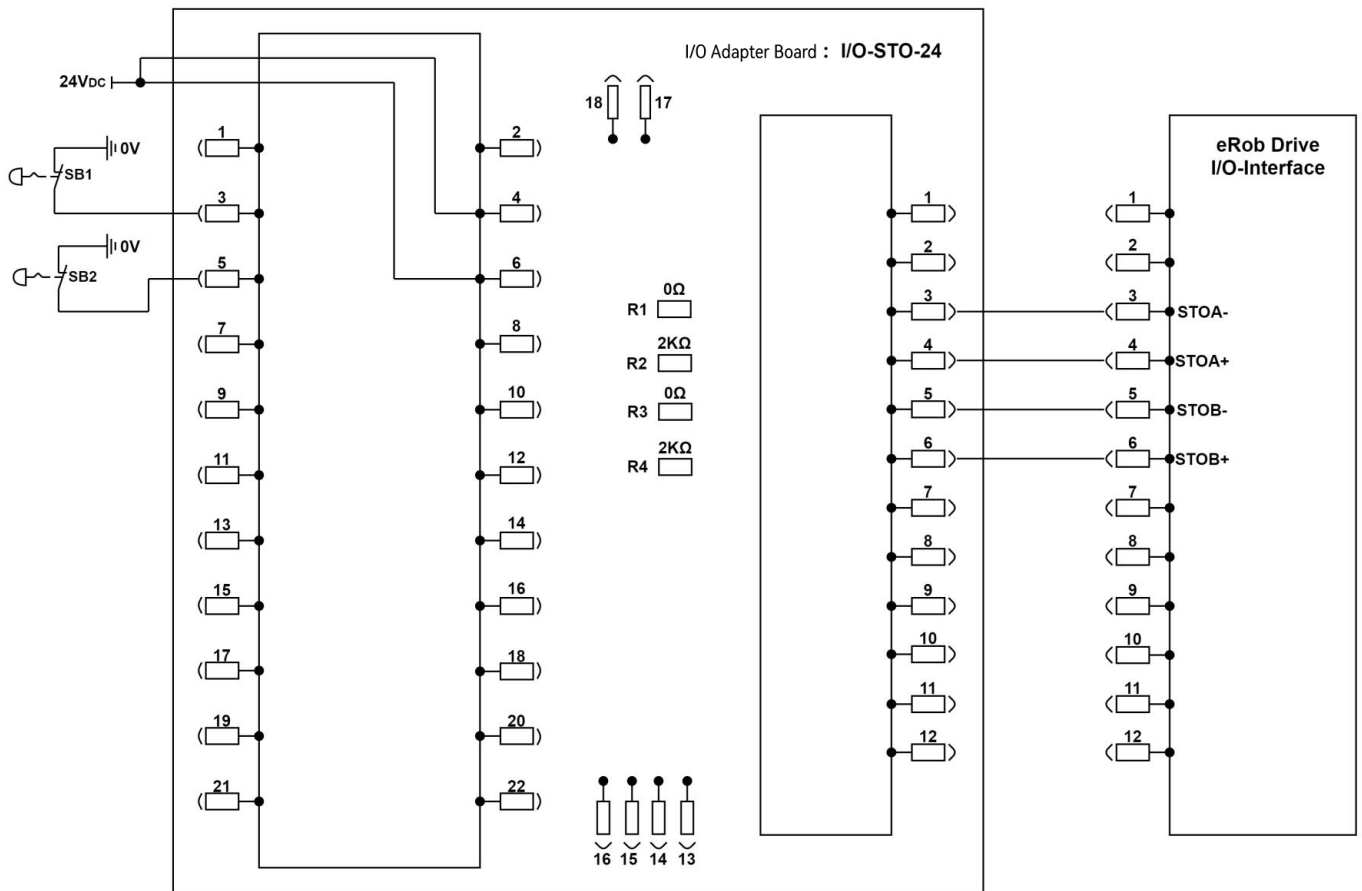
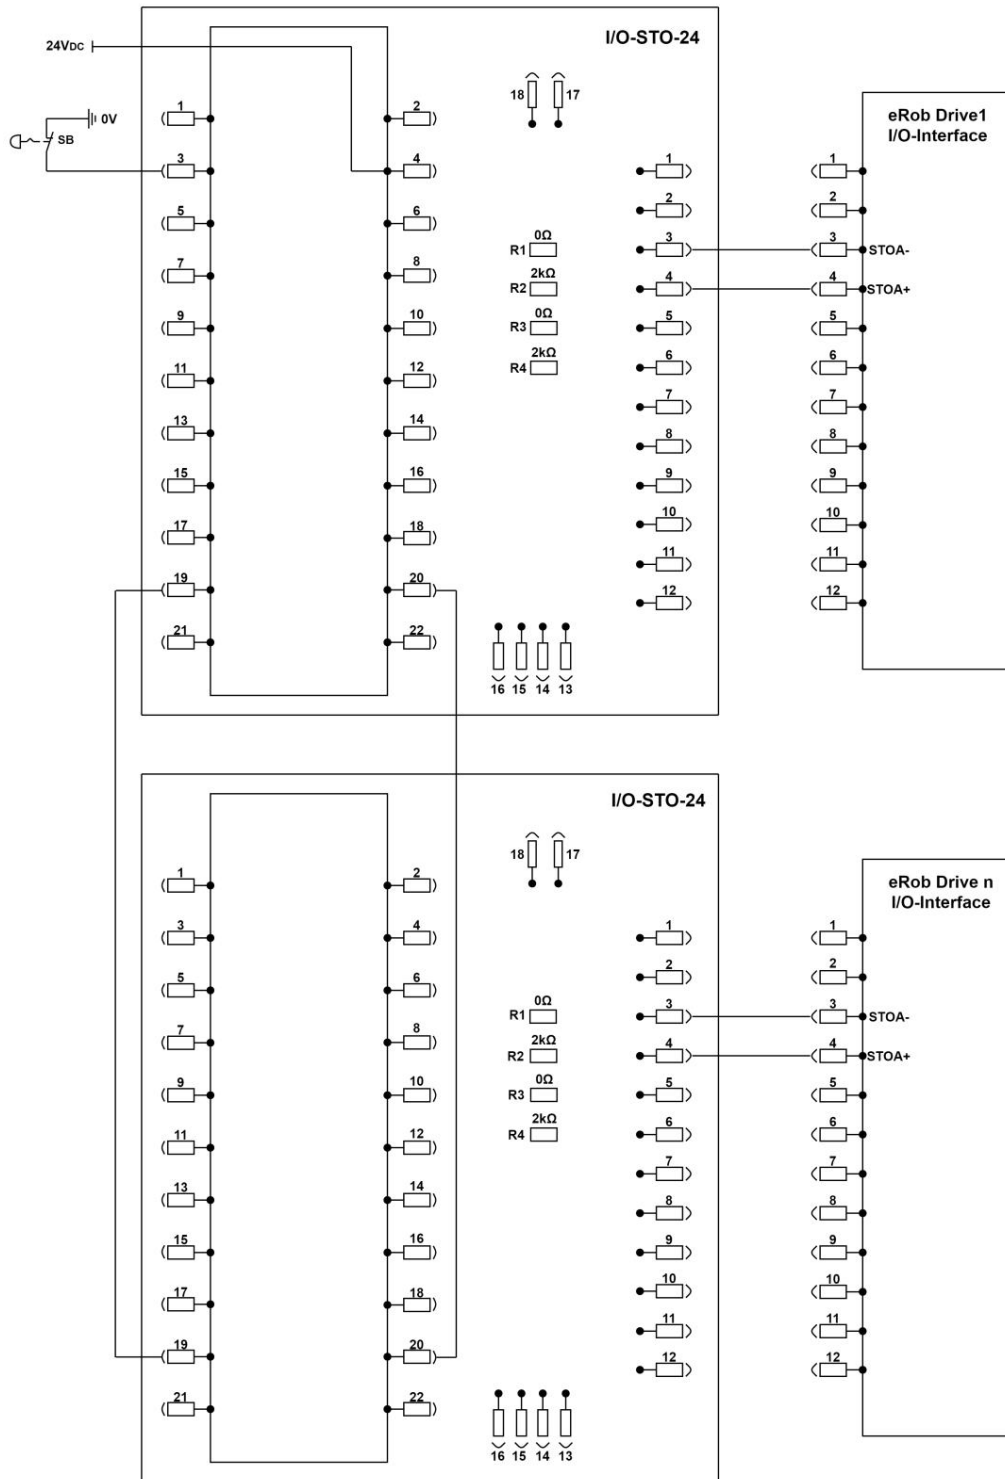

Figure 4-2 Single eRob Module Two STO Branch Circuit Function Wiring Diagram
Figure 4-3 Multiple eRob Module One STO Branch Circuit Function Wiring Diagram
STO function wiring for a single eRob rotary actuator module is shown in Figure 4-2. STO function wiring for a multiple eRob rotary actuator module is shown in Figure 4-3. For more details regarding the STO functionality, please refer to *Chapter 22* of the eRob Rotary Actuator User Manual
- (1) The power input voltage of the I/O Adapter Board is 24VDC.
- (2) The SB1 & SB2 represent the emergency stop buttons.
- (3) Figure 4-2 shown above shows the two STO branch circuits function configuration illustration diagram, when setting up the one STO branch circuits function configuration, connect STOA only.